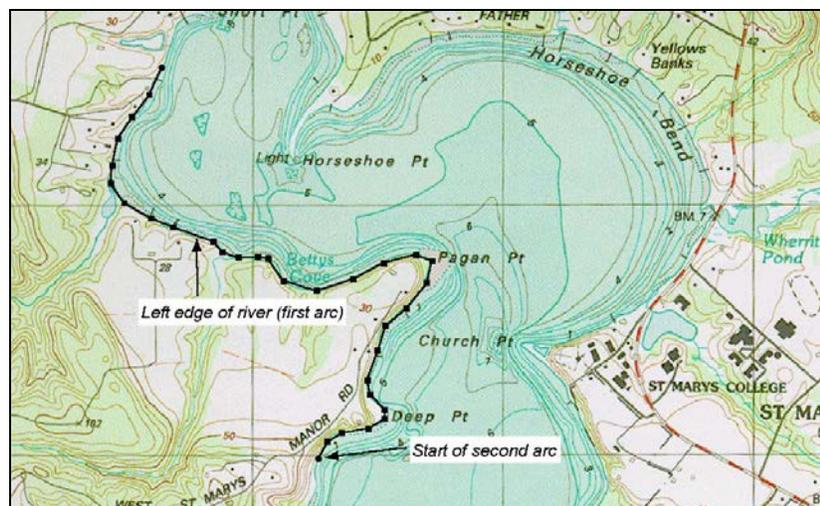

Figure 3 Creation of the first feature arc.
2. Click out the left riverbank, as shown in Figure 3 (you may want to Zoom  closer). As you create the arc, if you make a mistake and wish to back up, press the *BACKSPACE* key. If you wish to abort the arc and start over, press the *ESC* key.